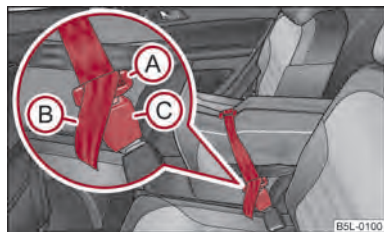

Fig. 87 Securing the removable through-loading bag
- Insert the lock tongues Ⓐ ⇒ fig. 87 in the belt locks of the rear middle seat belt Ⓒ, first of all on the one side and then on the other side.